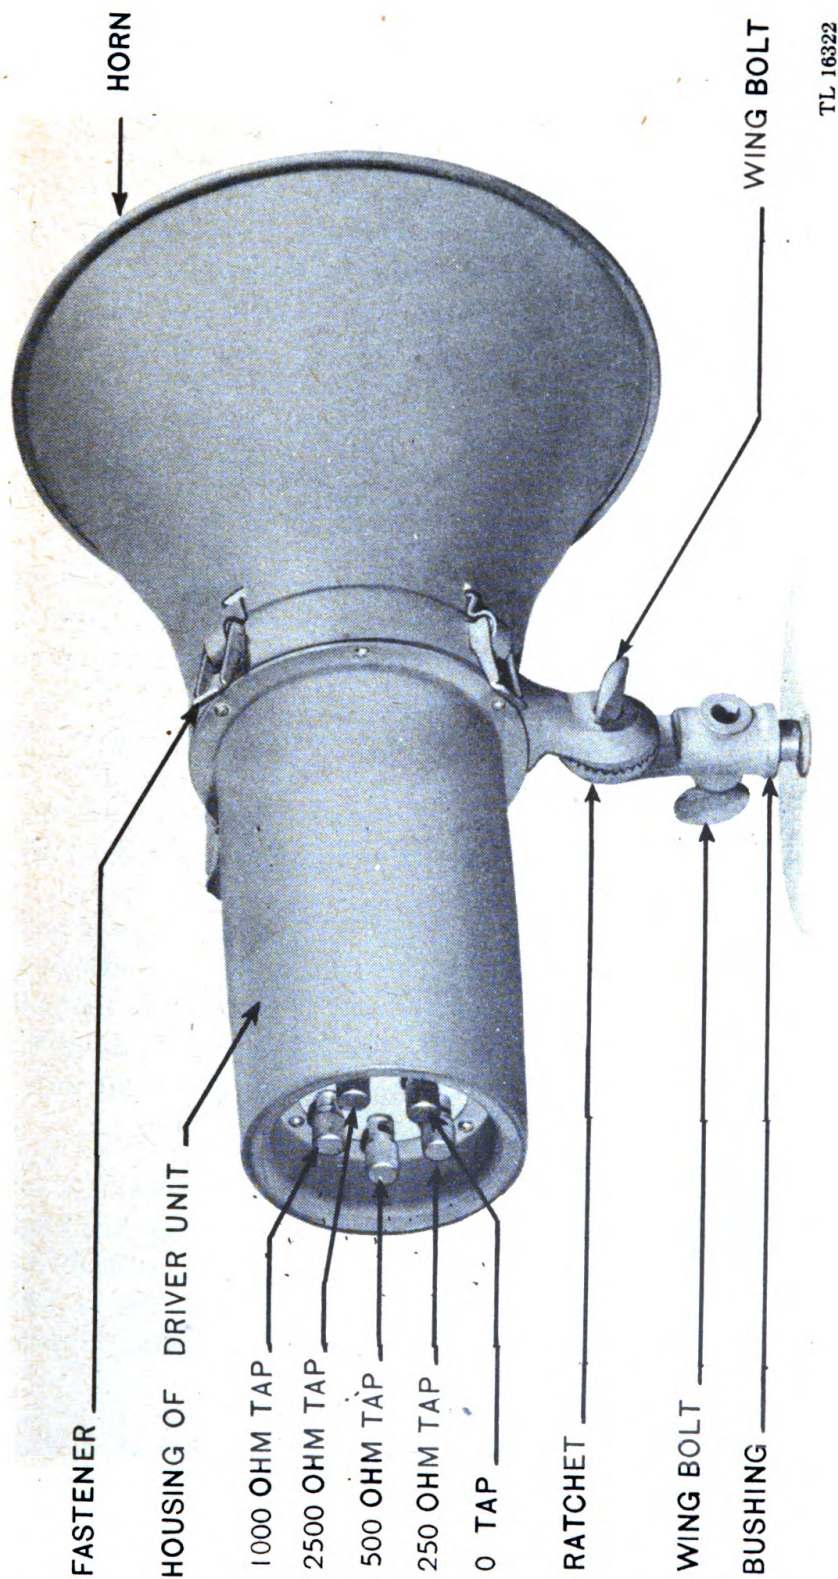

Figure 10. Loudspeaker LS-104/TIQ-3.
n. Loudspeakers LS-104/TIQ-3 (fig. 10). (1) **SPEAKER HORN.** The speaker horn is of the reflex type. In this type of horn, the sound travels back and forth three times before leaving the horn, thereby providing the same efficiency as a nonreflex type of horn several times its length. By means of four clasp fasteners, the bell of the horn is attached to the frame that holds the horn, the driver unit, the transformer box, and the terminal strip. The horn of the speaker is, therefore, removable and permits the nesting of four horns for storing in Case CY-96/TIQ-3. (2) **SPEAKER DRIVER UNIT.** The driver unit is the motive power of the loudspeaker. It converts the electrical energy received from the amplifier and control unit into audible sound. It also acts as a microphone and converts acoustical energy into electrical energy when the intercommunication feature of the system is used. The driver unit is blastproof. (3) **TRANSFORMER T-8 (fig. 22).** This unit transforms the electrical energy received from the amplifier and control unit to the proper value for the speaker driver unit. When the speaker is used as a microphone, this transformer converts the electrical energy received from the speaker driver unit voice coil into electrical energy of the proper value to energize the input of the control unit. (4) **TRANSFORMER BOX.** The transformer box contains transformer T-8, terminal board E-15, and its five binding posts for the loudspeaker cable. (5) **MOUNTING BRACKET AND BUSHING.** The bracket is equipped with an adjustable ratchet to permit elevation of the speaker, and with a bushing to fit the mounting stud on Stand MT-128/TIQ-2. A wingbolt on the bushing is used to lock the bushing on the mounting stud. A wingbolt on the ratchet is used to lock the speaker at any desired elevation.
i. To assemble Loudspeaker LS-104/TIQ-3, insert the rim of the small end of the speaker horn into the throat of the speaker driver unit (figs. 10 and 12). Place the catches of the four catch-fasteners opposite the slots in the speaker horn rim. Insert all four catches before pressing down the fasteners. Loosen the wingbolt securing the ratchet on the frame of the speaker, and place the bushing at a right angle to the speaker body. Then, tighten the wingbolt.
a. Loosen the screw on the back plate of Loudspeaker LS-104/TIQ-3 housing unit (fig. 10) and turn the plate to expose terminal board E-15.